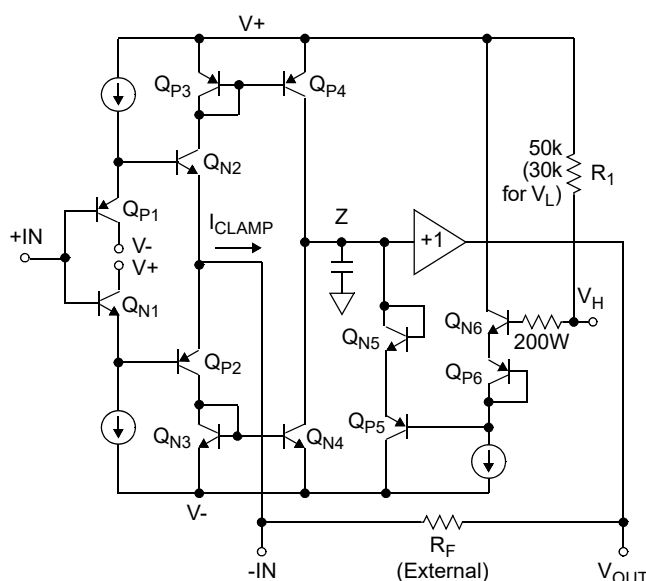

Figure 1. Simplified V_H Clamp Circuitry
Figure 1 shows a simplified schematic of the HS-1135RH input stage, and the high clamp (V_H) circuitry. As with all current feedback amplifiers, there is a unity gain buffer ($Q_{X1} - Q_{X2}$) between the positive and negative inputs. This buffer forces $-IN$ to track $+IN$, and sets up a slewing current of $(V_{-IN} - V_{OUT})/R_F$. This current is mirrored onto the high impedance node (Z) by $Q_{X3} - Q_{X4}$, where it is converted to a voltage and fed to the output via another unity gain buffer. If no clamping is utilized, the high impedance node may swing within the limits defined by Q_{P4} and Q_{N4} . Note that when the output reaches its quiescent value, the current flowing through $-IN$ is reduced to only that small current ($-I_{BIAS}$) required to keep the output at the final voltage.
The clamped output voltage will not be exactly equal to the voltage applied to V_H or V_L . Offset errors, mostly due to V_{BE} mismatches, necessitate a clamp accuracy parameter which is found in the device specifications. Clamp accuracy is a function of the clamping conditions. Referring again to Figure 1, it can be seen that one component of clamp accuracy is the V_{BE} mismatch between the Q_{X6} transistors, and the Q_{X5} transistors. If the transistors always ran at the same current level, there would be no V_{BE} mismatch, and no contribution to the inaccuracy. The Q_{X6} transistors are biased at a constant current, but as described earlier, the current through Q_{X5} is equivalent to I_{CLAMP} . V_{BE} increases as I_{CLAMP} increases, causing the clamped output voltage to increase as well. I_{CLAMP} is a function of the overdrive level ($V_{IN} - V_{OUTCLAMPED}$) and R_F , so clamp accuracy degrades as the overdrive increases, or as R_F decreases. As an example, the specified accuracy of $\pm 60\text{mV}$ for a 2X overdrive with $R_F = 510\Omega$ degrades to $\pm 220\text{mV}$ for $R_F = 240\Omega$ at the same overdrive, or to $\pm 250\text{mV}$ for a 3X overdrive with $R_F = 510\Omega$.